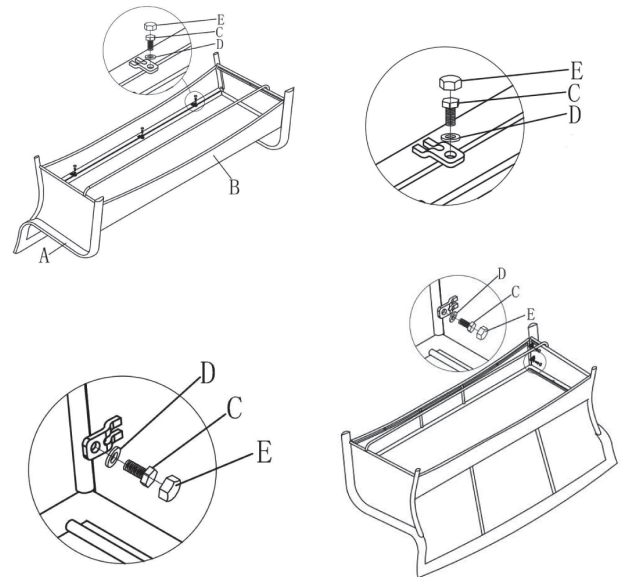

Figure 2
Step 2. With the help of another person, carefully place the seat (B) into the seat frame. Connect the seat to the seat frame with bolts (C), washers (D) by using open wrench (F), then cover the bolts with bolt covers (E) as show in Figure 2.(Figure 2&3)